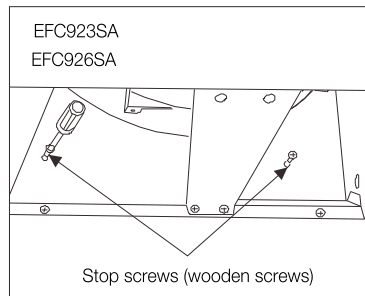

Fig. 3
5. From the inside of the hood, twist two small wooden screws into the expansion pipe (see Fig. 3) in the stop screw holes (Fig. 1). This is to prevent the hood from moving or falling during operation.